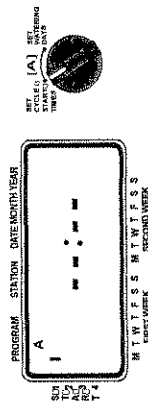

FIGURE 5: LCD Display with Start Time
- Turn the rotary selector to set the **CYCLE START TIMES** position in the program that you want to set up. The display will show an **A** or **B** depending on which program you have selected. The display will show — : — and a blinking cursor will appear in **START 1** location [See Figure 5].